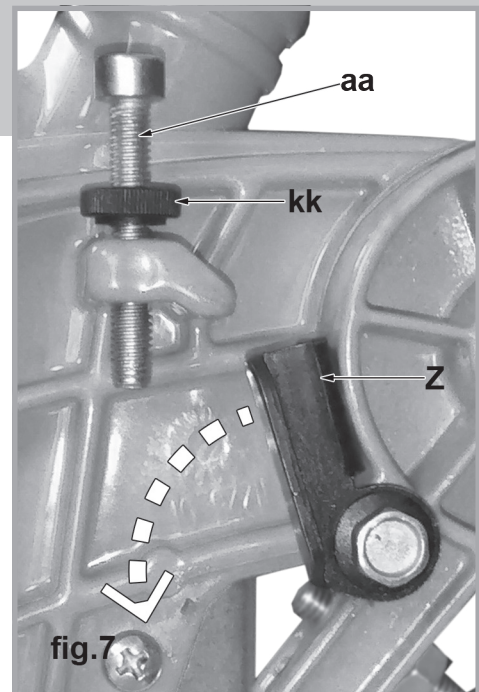

fig.7
1. This dado depth is engaged when the dado stopper plate (Z, fig 7 & 8) is swung down and engages the dado depth adjust screw (aa, fig.7 & 8).
5. Tighten the knurled locking nut (kk, fig.7 & 8) on the shank of the dado depth adjustment screw to lock its setting.